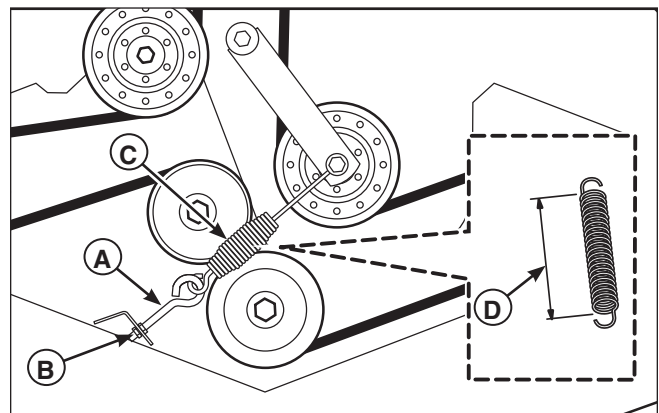

Figure 30. Mower Belt Tensioner Spring Measurement
9. The measurement should equal the measurement as designated in the chart. If the measurement does not equal the measurement as designated in the chart, adjust the anchor eyebolt (A, Figure 30) until the desired measurement is achieved.